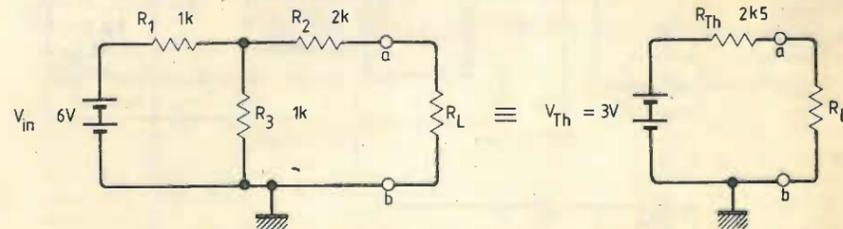

Fig. 3. Making use of the Thévenin theorem; both circuits have the same responses at the output terminals a-b.
Frequently in circuit analysis, we are interested in determining how the voltage varies at two terminals. In the amplifier circuit, for example, the effect of changing the load resistor may be required. Thévenin's theorem reduces circuits using resistors, capacitors and inductors, along with voltage or current sources to a simple series circuit. To illustrate the theorem, the circuit in Fig. 3 is used as an example. To find the Thévenin voltage, denoted  $V_{TH}$ , first open the terminals a-b for the network on the right and then calculate the open circuit voltage without  $R_L$  connected. For this circuit,  $V_{TH}$  is found using the voltage divider
a-b with the voltage source shorted. For the circuit shown,  $R_{TH}$  is the parallel combination of  $R_1$  and  $R_3$  in series with  $R_2$  and equals  $2.5\text{k}\Omega$ . If current sources are present in a circuit, they are opened (removed) when finding  $R_{TH}$ . For the Thévenin equivalent circuit in Fig. 3, it's easy now to calculate the output voltage across the terminals a-b as  $R_L$  varies. All that's needed is application of the voltage divider principle as discussed in the last section. More complex circuits are reduced in a similar manner, even though  $V_{TH}$  and  $R_{TH}$  may be more difficult to determine. But it's easier than the alternative of solving simultaneous loop equations for each different value of  $R_L$ .
- Question 5. If  $R_2 = 1\text{k}$  instead of  $2\text{k}\Omega$  in Fig. 3, what is the value of the Thévenin voltage  $V_{TH}$ ?
- Question 6. If  $R_2 = 1\text{k}$  instead of  $2\text{k}\Omega$  in Fig. 3, what is the value of the Thévenin resistance  $R_{TH}$ ?